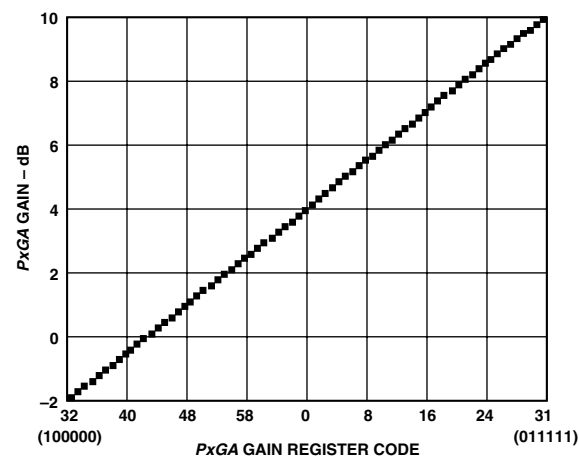

Figure 19. PxGA Gain Curve
The same Bayer pattern can also be interlaced, and the VD selected mode should be used with this type of CCD (see Figure 18b). The color steering performs the proper multiplexing of the R, G, and B gain values (loaded into the PxGA gain registers) and is synchronized by the user with vertical (VD) and horizontal (HD) sync pulses. For more detailed information, see the PxGA Timing section. The PxGA gain for each of the four channels varies from -2 dB to +10 dB, controlled in 64 steps through the serial interface. The PxGA gain curve is shown in Figure 19.